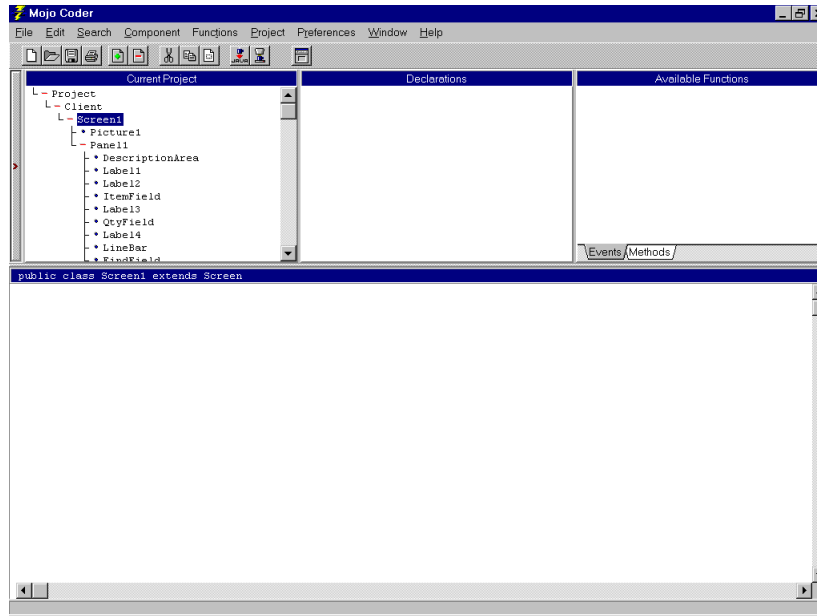

Figure 3B.1
*The Mojo Coder is represented in Figure 3B.1*